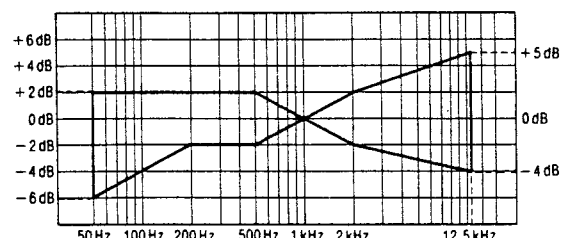

Fig. 15
8. Assure that the level is within the range shown in Fig. 15.